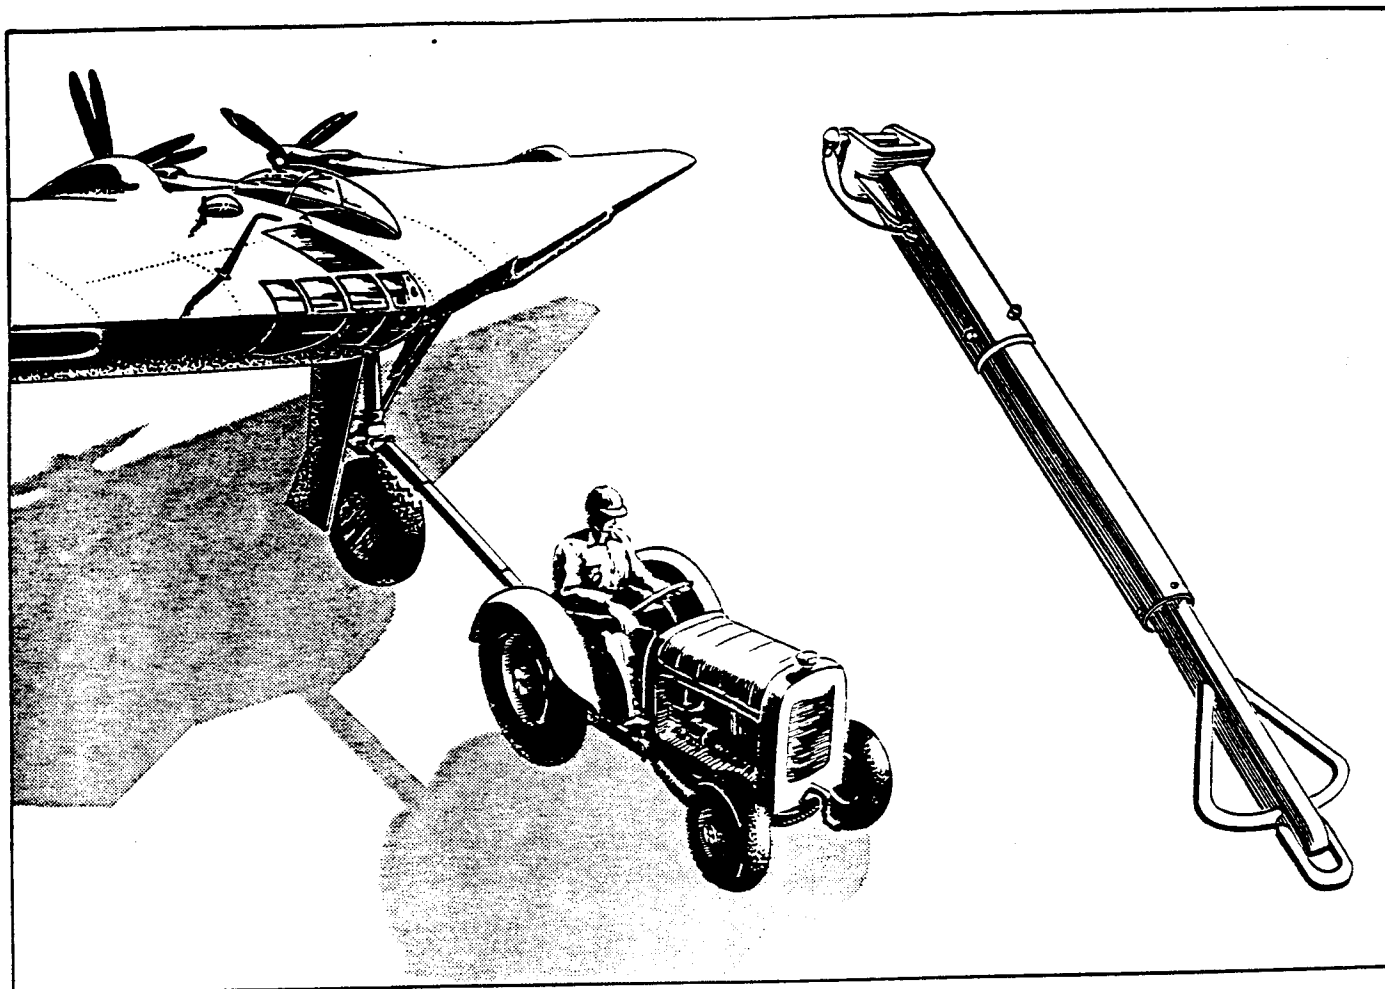
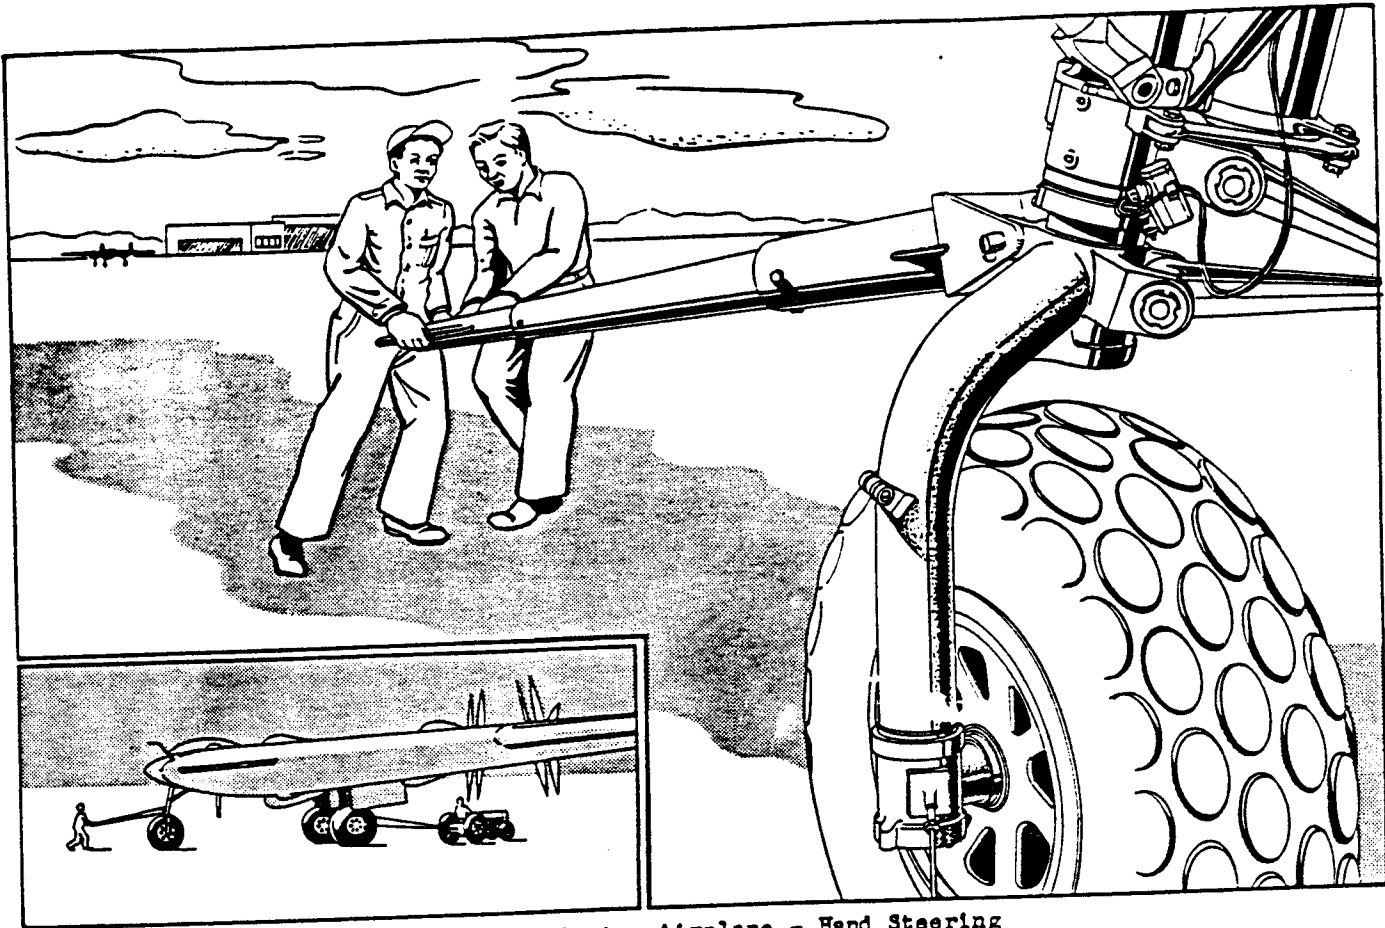

Figure 6. Towing Airplane - Tractor Steering
Figure 7. Towing Airplane - Hand Steering
tractor, for even distribution of the tow load during turning. A telescopic tow bar used for towing the airplane, may be attached from the nose gear shock strut to the tractor to steer the airplane when the tow line is used (see figure 6), or it may be used for hand steering as shown in figure 7.
(2) The airplane may be towed backward by use of a tow line, in which case a tow bar will be used for manual steering. See figure 7.
(3) It is recommended, due to the dangers of upsetting the airplane, that the hand parking brake be used for all braking when the airplane is being towed.
(4) Extreme care must be used in application of the brakes when the airplane is moving backward, to prevent upsetting.